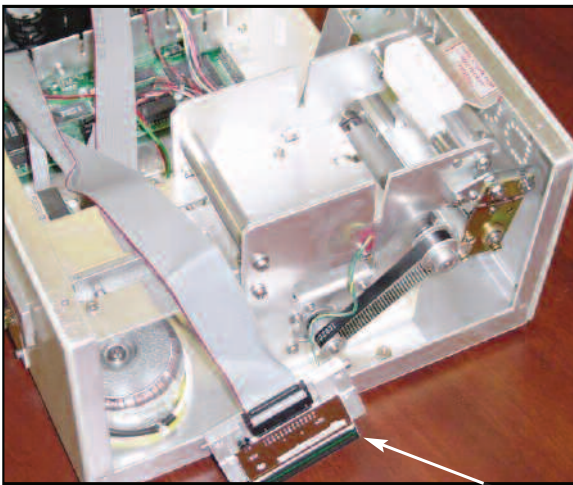

Figure 9c - Print Head removal
5. Clean the thermal print head surface (the side that makes contact with the paper) with isopropyl alcohol. (see **figure 9c**)